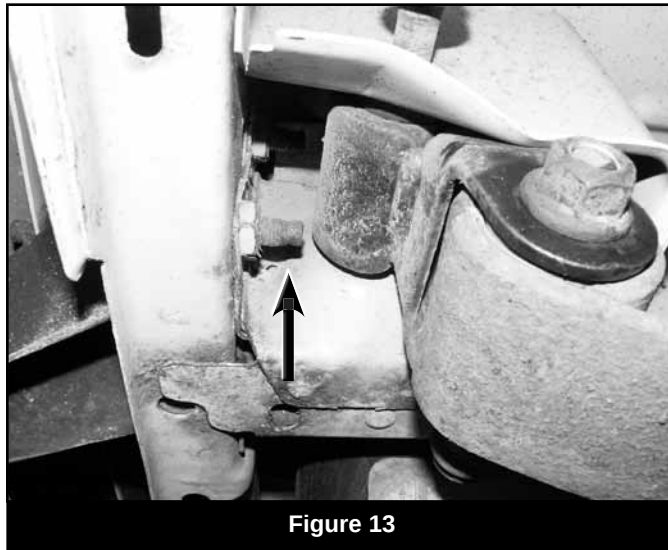

Figure 13
- 61. Apply a small amount of lithium based grease to bushing (3533RB) and install bushing, sleeve (52), and grease zerk into shackle (01312B).
- 64. Locate the bumper bolt that is protruding into the shackle pocket. This bolt will contact the new larger shackle through suspension travel. The bolt can either be cut off flush with the welded nut on the body or removed. (Fig 13)